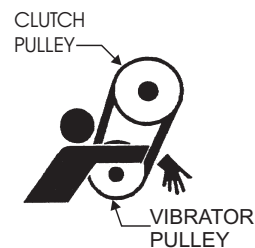

Figure 29. V-Belt Hazard
**NEVER** attempt to check the V-belt with the engine running. Severe injury can occur if your hand gets caught between the V-belt and the clutch (Figure 29). Always use safety gloves.